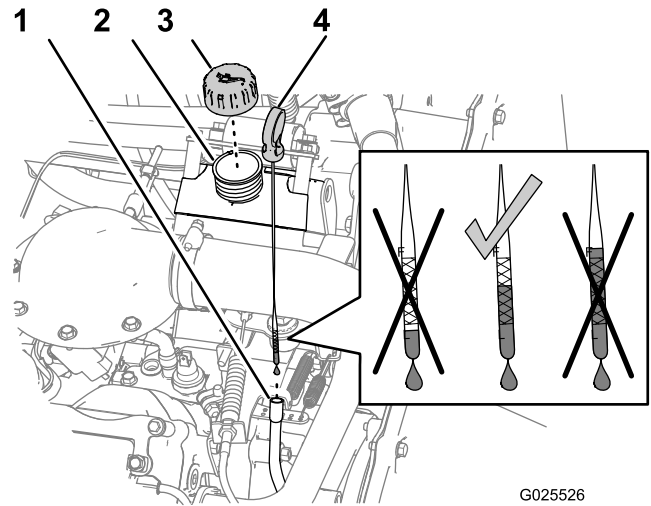

Figure 42
4. Remove the dipstick and wipe it with a clean rag (Figure 42).
6. Remove dipstick and check the oil level (Figure 42).
7. If the oil level is low, remove the filler cap (Figure 42) and add enough oil to raise the level to the Full mark on the dipstick.
8. Install the filler cap onto the filler neck (Figure 42).
9. Firmly install the dipstick (Figure 42).